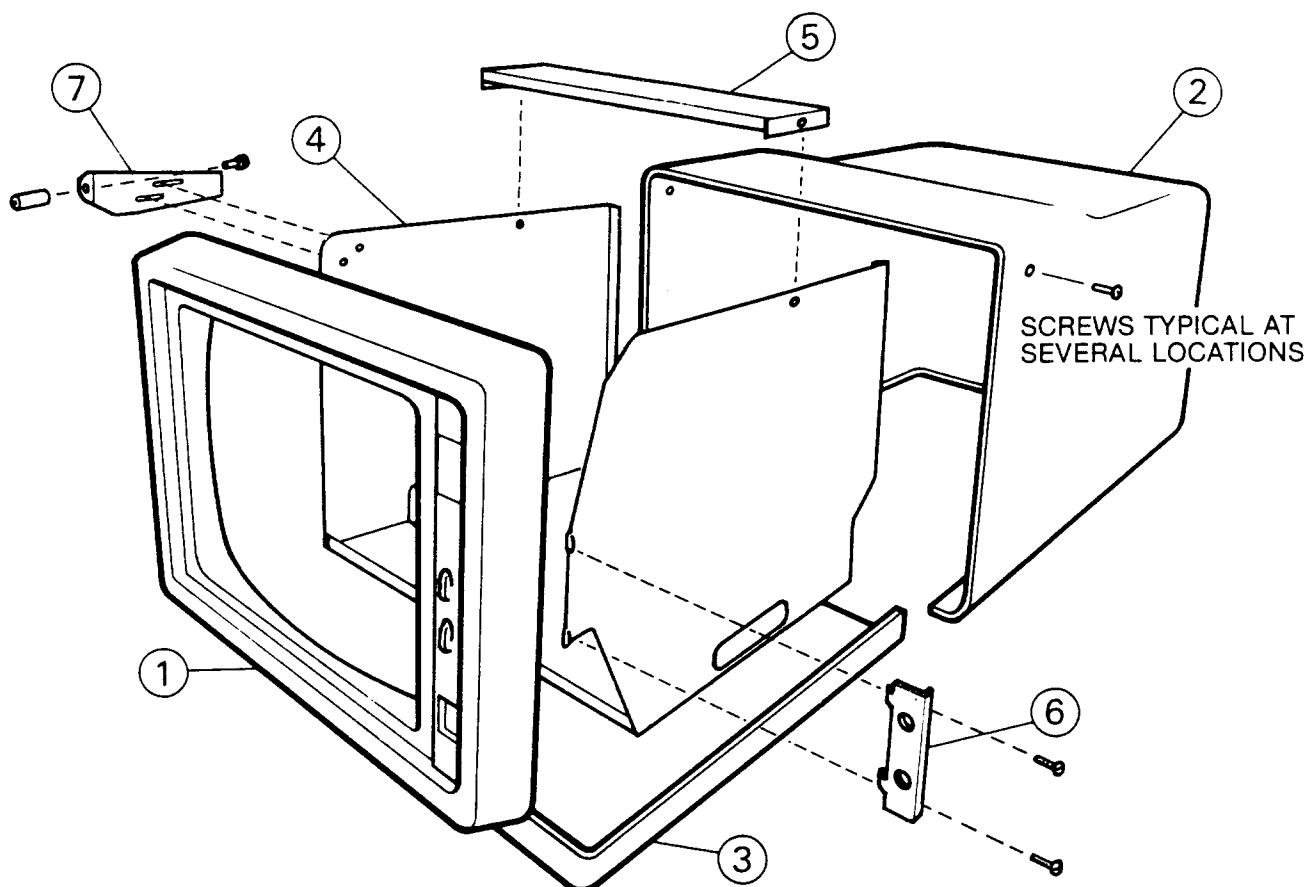

FIG T1 T SERIES EXPLODED VIEW
A general view of the cabinet assembly and exploded view of the chassis construction is shown in Figure T1, T Series Cabinet: Exploded View.
- 2 x Fixing Screws (A) from Cabinet Base
- 2 x Fixing Screws (B) from Cabinet Cover sides
- 2 x Fixing Screws (C) from Cabinet Cover back
3. Refer to Figure T1, T Series Cabinet: Exploded View for general construction and assembly details, and in relation to the notes following:
4. Refer to Figure T1, T Series Cabinet: Exploded View.
- a) Unscrew fixing screw locating into the screwed bush at the top left-hand Stabilizer Bracket fixing point - item (7).
- b) Remove: 2 x Fixing Screws - securing the R/H front of the Chassis Main Frame, item (4), to the Customer Controls Bracket, item (6).